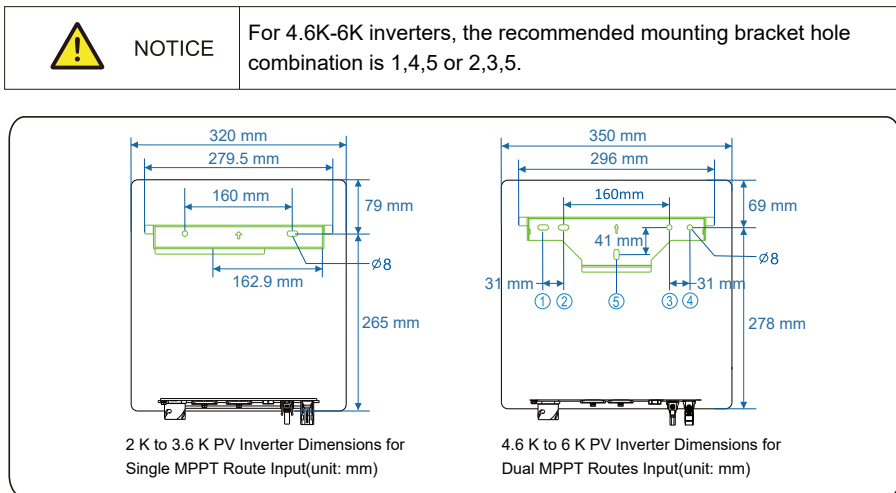

Figure 4.10 Determine the positions for drilling holes (unit: mm)
Step 2 Determine the positions for drilling holes (as shown in Figure 4.10) using the mounting bracket.